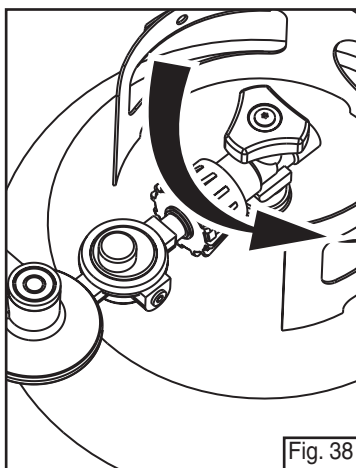

Fig. 38
- Turn on fuel supply on righthand L.P. gas cylinder. (Fig. 38)